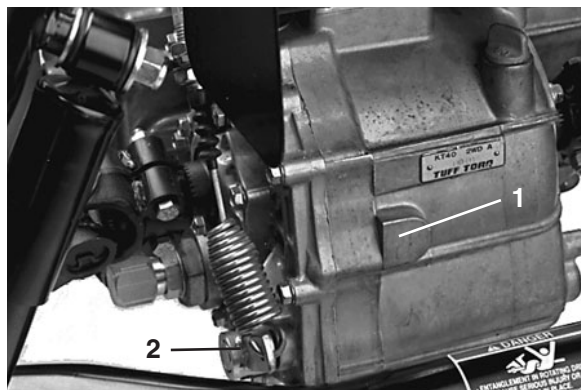

Figure 48
Changing Transaxle/Hydraulic Fluid (Fig. 48)
2. Remove drain plug (Fig. 48) from side of reservoir and let hydraulic fluid flow into drain pan.